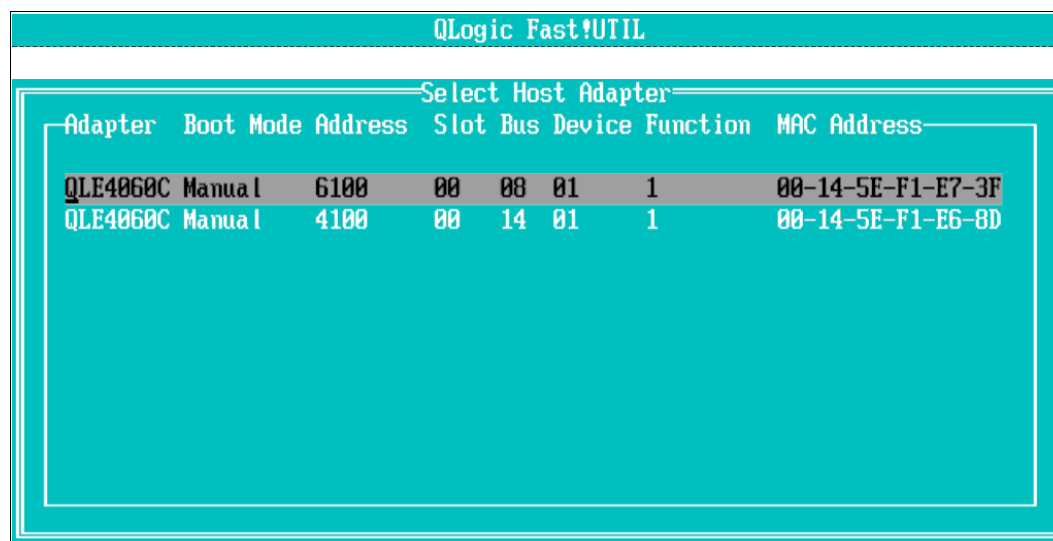

Figure 6-7 Select HBA
2. In the QLogic FastUtil menu, select the desired HBA, as shown in Figure 6-7.